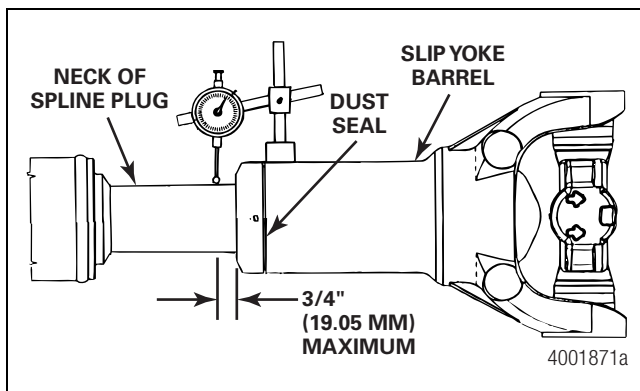

Figure 3.8
2. Firmly mount a dial indicator with a magnetic base onto the slip yoke barrel next to the dust seal. Figure 3.8. You don't want the dial indicator to move when you check the slip yoke for looseness, or the measurement will not be correct.
3. Extend the dial indicator arm from the base, so that it contacts the neck of the spline plug within 3/4-inch (19.05 mm) from the dust seal. Figure 3.8.